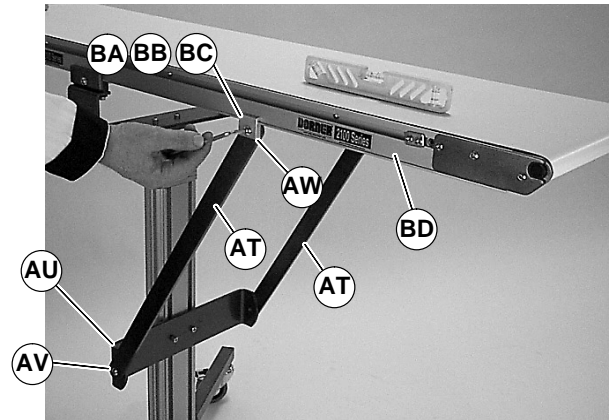
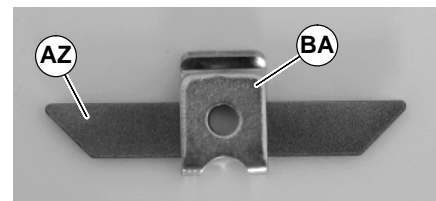

Figure 37
Figure 38
4. Attach braces (AT of Figure 37) to brace bracket (AU) with M8 screw (AV).
5C. For 6100 conveyors: Insert belt guards (AZ of Figure 38) into 6100 clips (BA). Attach braces (AT of Figure 37) to conveyor rails (BD) with 6100 clips (BA) and M8 screws (AW).
6. Tighten M8 screws (AV & AW of Figure 37) to 9 Nm.